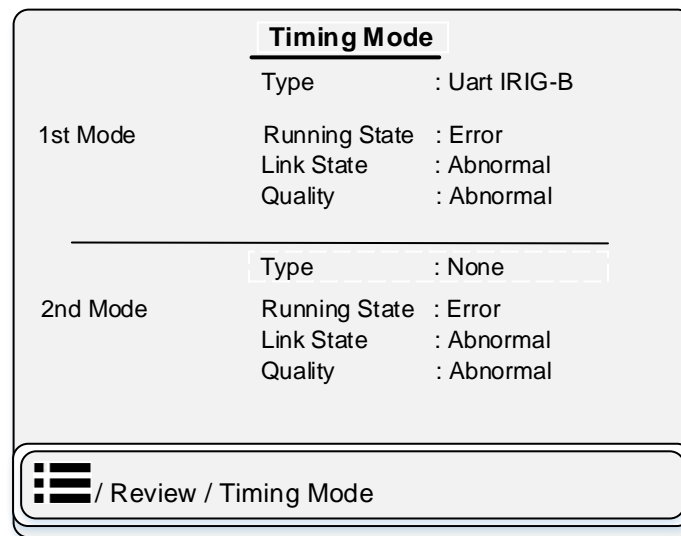

Figure 7.3-5 Overview Display of Timing Mode
This section, the user can see the time information like Uart IRIG-B, Opti IRIG-B and SNTP (Simple Network Time Protocol) information and the user can't change any kind of information. Users can access this function through the following path: "Review > Timing Mode". The overview display of timing mode is shown in Figure 7.3-5.
This section divided into two sub-parts and describe the information of binary input (BI) of this IED seen in the above figure 7.3.5. This section only displays all the binary input data. User can access this function through the following path: "Monitor > BI".